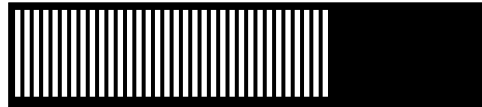

Figure 72. Hardware boot display
- Is the hardware boot display that you see in Figure 72 displayed on any of the SAN Volume controllers?**
Has the hardware boot display that you see in Figure 72 displayed for more than three minutes?